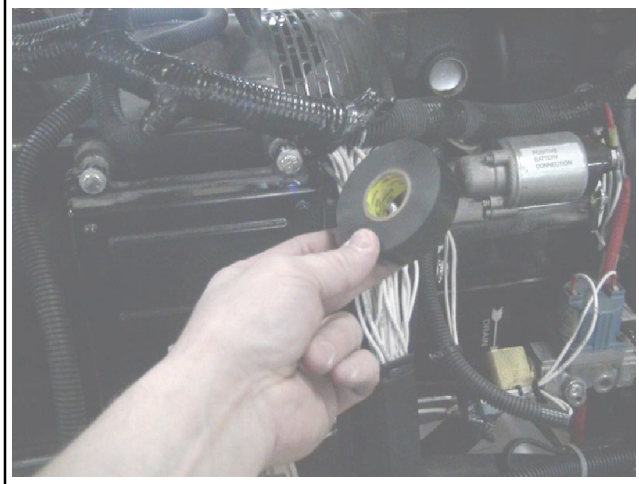

Figure 17 Tape Conduit
16. Tape the plastic conduit of the engine wiring harness from the ECM 56-pin connector. See Figure 17.